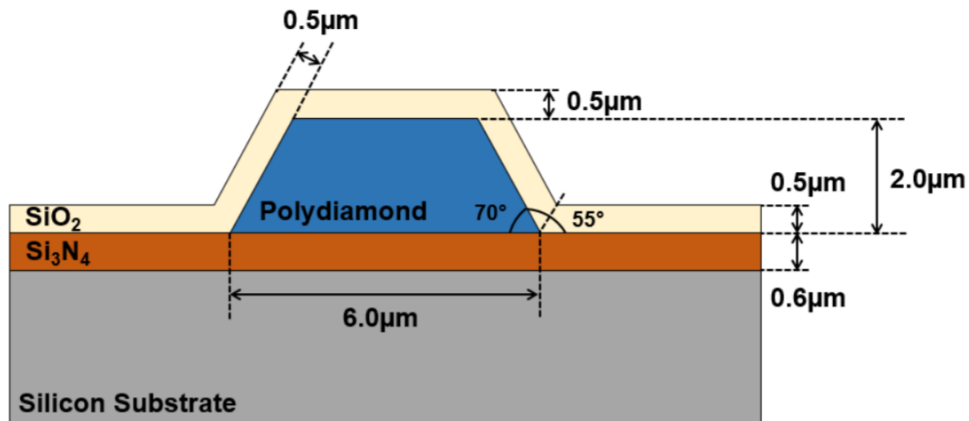

Fig. PS2.1-1
1. Consider the cross-section shown in Fig. PS2.1-1 of a polydiamond beam with angled sidewalls upon which a conformal SiO₂ film was deposited. The wafer will be placed into an RIE chamber. Assume that chemicals inside the chamber will etch the structure at the rates listed in Table PS2.1-1. Carefully draw cross-sections of the structure after